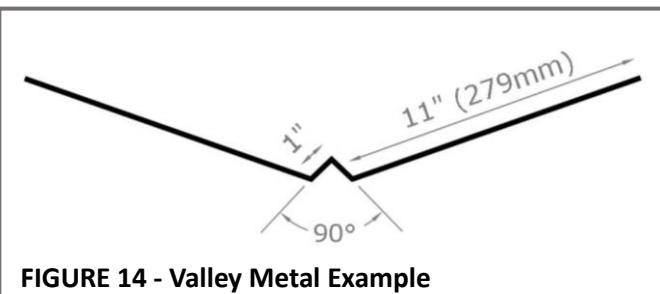

FIGURE 14 - Valley Metal Example
- **VALLEY METAL** - Consult local building codes for width of metal valley and for allowed materials. The width should be a minimum of **12" (305mm)** on each side. F-WAVE recommends the use of a W-style valley metal. See **Figure 14**.